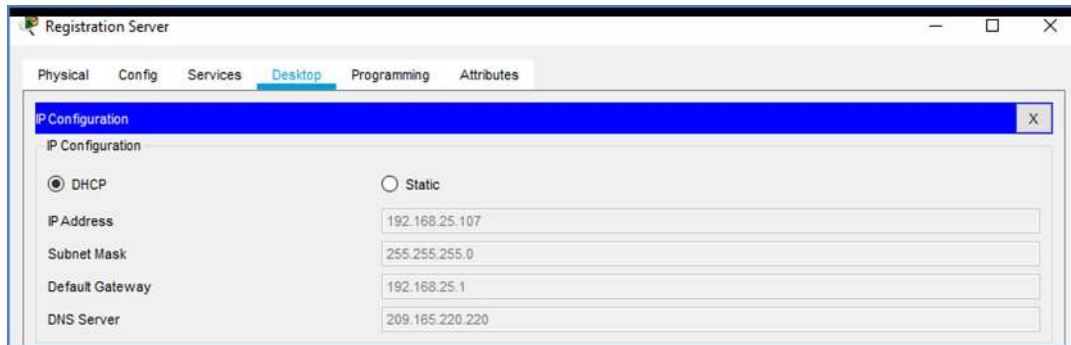

Figure 9.5: Server Obtaining an IPv4 Address from DHCP
- Confirm that the server has acquired a valid IP (e.g., 192.168.25.107) from the DHCP pool (Figure 9.5).